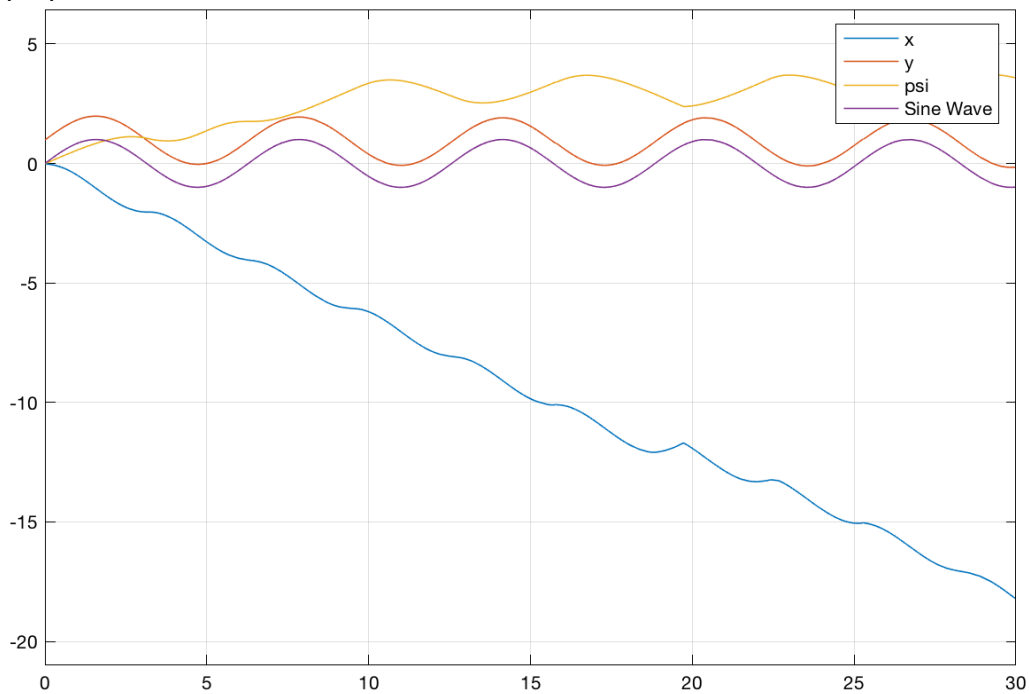

Figure 5. Plot of closed loop system for problem 7
7. If we fix the initial condition, but attempting to track more challenging reference trajectories, we may choose to switch the trajectory from a ramp to a sinusoidal input with frequency of one. As can be seen from *Figure 5*, the sinusoidal trajectory is in parallel with y curve, and both ψ curve and the x curve demonstrate periodic properties in this situation.